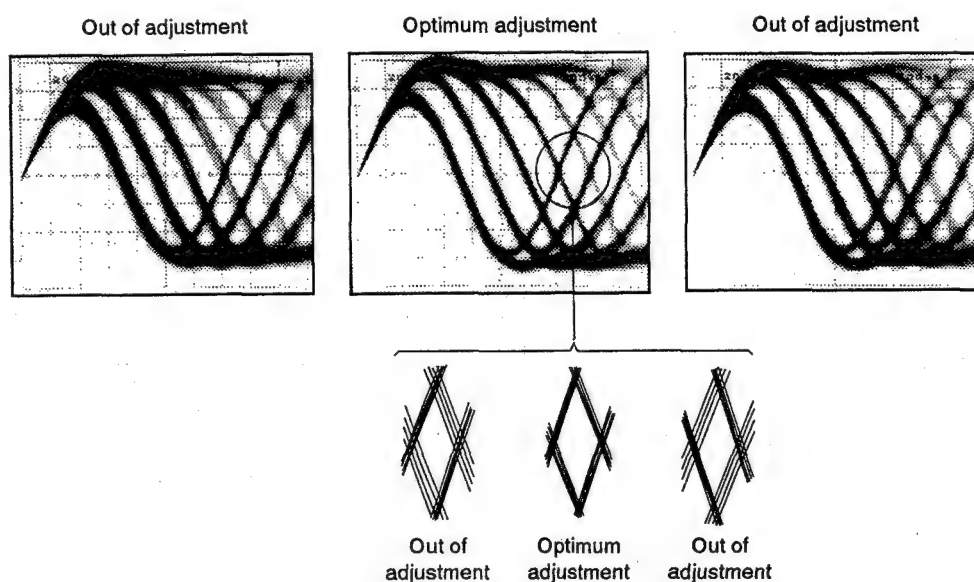

Figure 3. Eye pattern
4. Next, adjust the tangential tilt adjustment screw with the Phillips screwdriver so that the eye pattern (the diamond shape at the center of the RF signal) can be seen the most clearly (Figure 3).